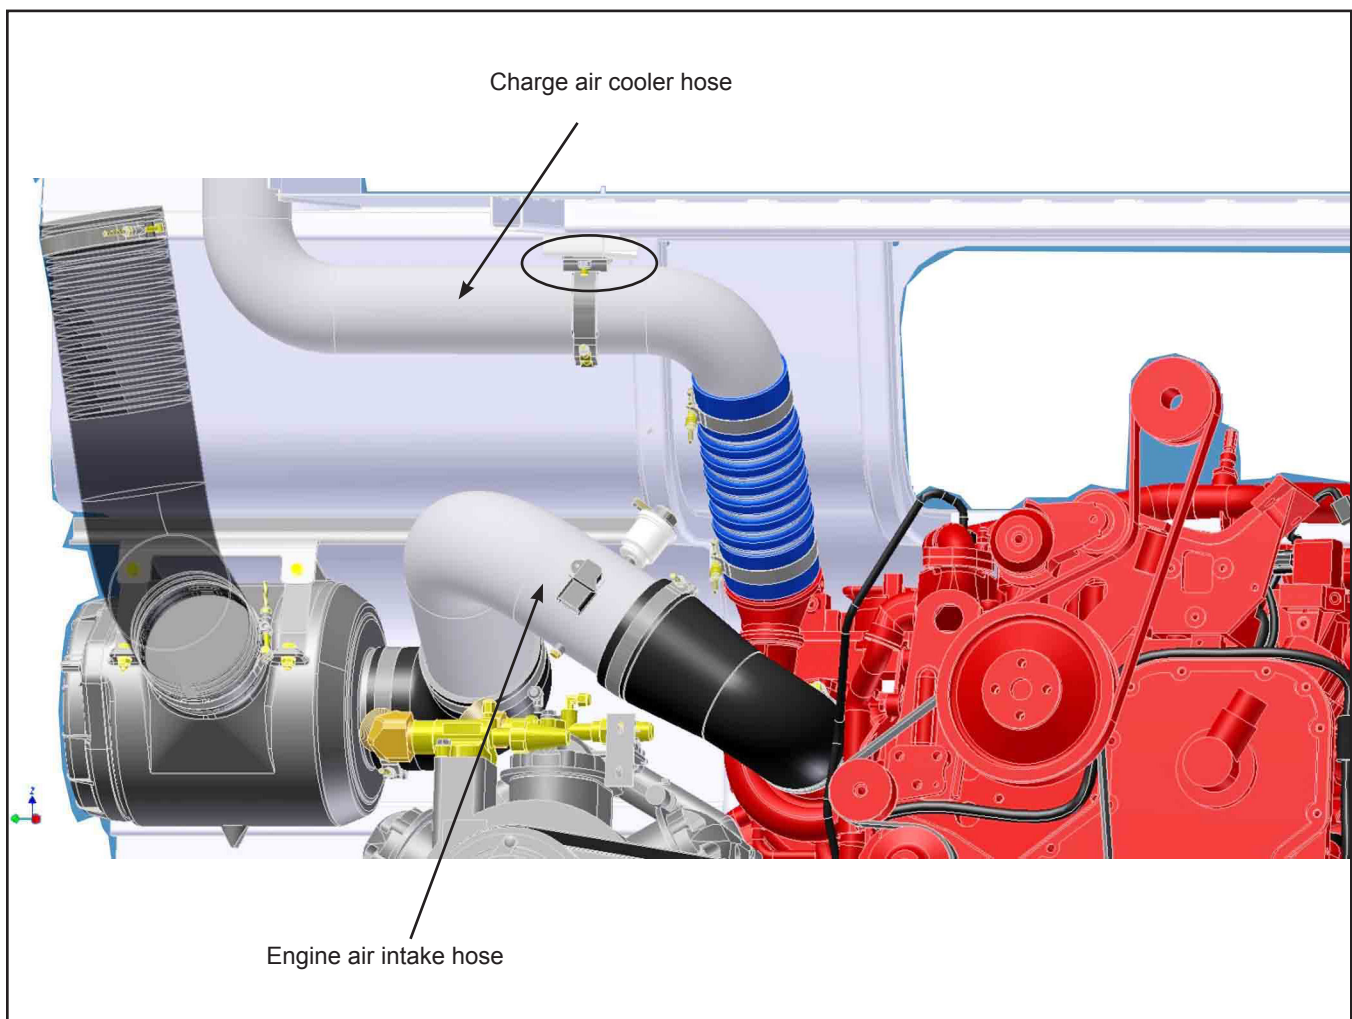

Figure 1 - Air Intake Hoses Location
- 1.2. Locate the engine air intake hose and the engine cooling air hose. See Figure 1.